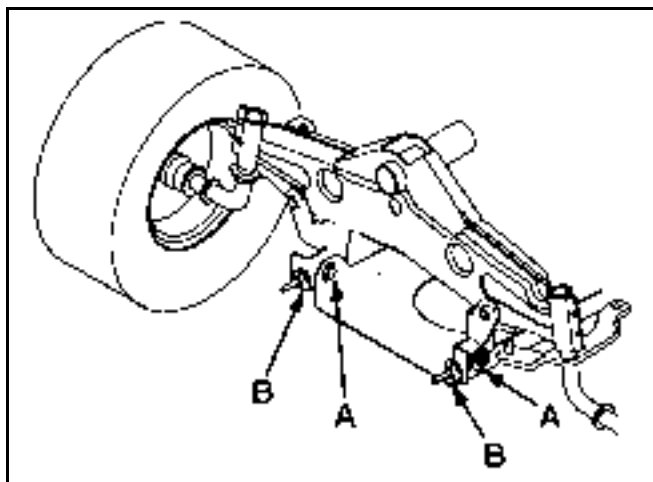

Figure 245
- To adjust front-to-rear blade slope loosen front pivot plate mounting bolts slightly (Figure 245).
- Rotate lock nuts on eyebolts to change adjustment (Figure 245). To raise the front of the mower tighten the eyebolt lock nuts. To lower the front of the mower loosen the eyebolt lock nuts.
- After adjusting both eyebolt lock nuts evenly, check the front-to-rear slope again. Continue adjusting eyebolts until the front blade tip is 0-5/16" (0-8mm) lower than the rear blade tip (Figure 245).
10. When front-to-rear slope is correct, tighten the pivot plate mounting bolts (Figure 245).